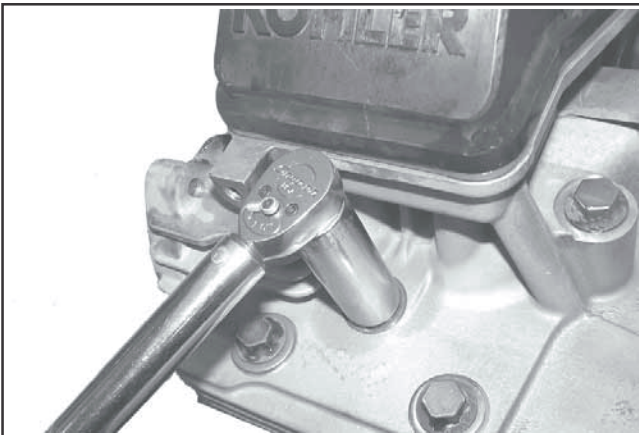

Figure 10-58. Installing Spark Plugs.
3. Install new plugs and torque to 24.4-29.8 N·m (18-22 ft. lb.). See Figure 10-58.